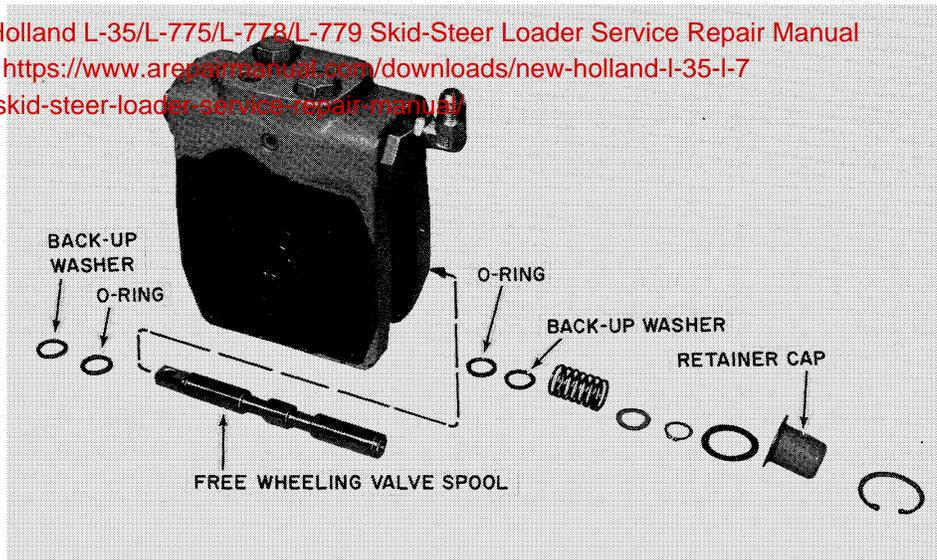
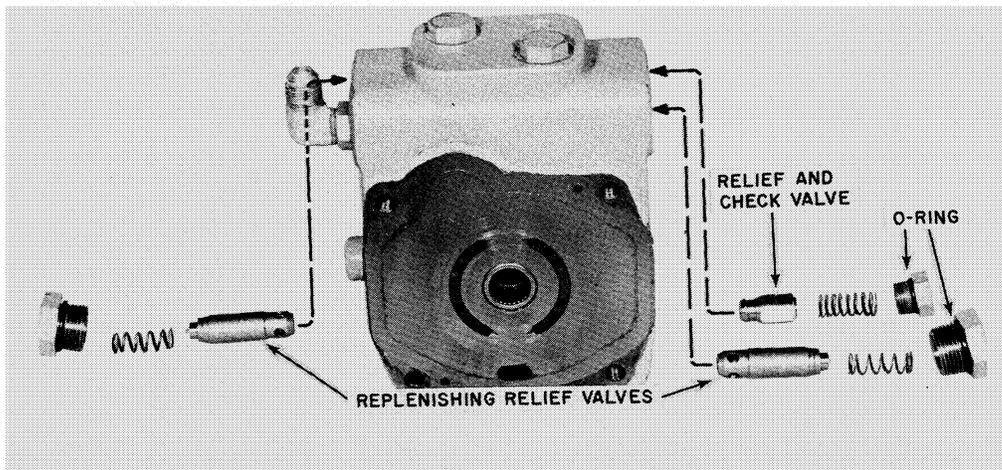

FIGURE 43
FIGURE 44
5. **Valve Block**—Install new backup washers and O-rings in the valve block as shown in Figure 43. Install the spool in the valve block, orienting the spool in the direction which can be easily reached after assembly in the unit.
Complete the assembly of the free wheeling valve as shown in Figure 43 and then install the replenishing relief valves, relief check valve springs, O-rings and caps, see Figure 44.
NOTE: The relief check valve and 25 psi (1.7 bar) spring shown in Figure 44 is used in L-35 loaders only. A larger solid construction valve and 40 psi (2.7 bar) spring is used in L-775 loaders. See Service Parts manual for details.